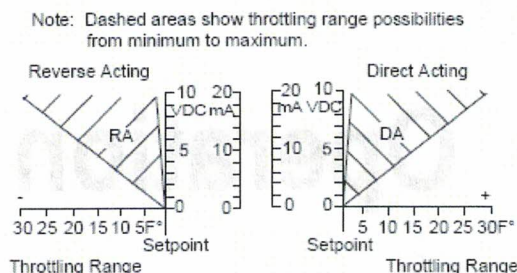

Figure 3-5. RA and DA Proportional Bands Shown in Proportional-Only Mode
With the operation jumpers in the Reverse Acting (RA) position, the analog output increases as the temperature drops below setpoint (See Figure 3-5). With the operation jumpers in the Direct Acting (DA) position, the analog output will increase as the temperature rises above the setpoint. Select the RA/DA mode by positioning the operation jumpers vertically or horizontally (See Figure 3-4). Position the operation jumpers vertically for RA and horizontally for DA. The RA/DA operation jumpers are installed in the DA mode at the factory.